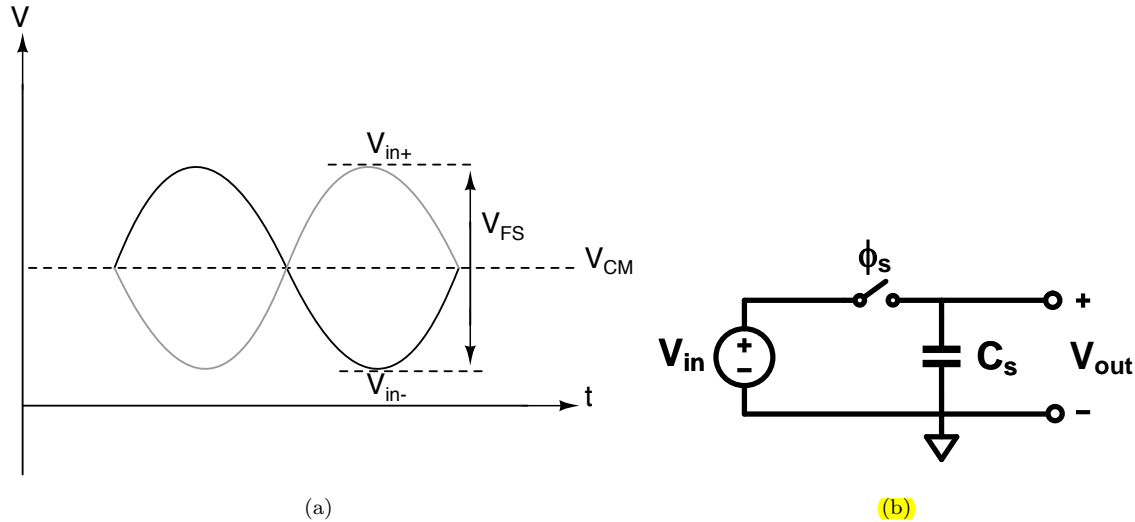

Figure 3: (a) Definition of the Full Scale Differential Input Voltage and Common Mode Voltage; (b) Schematic of an ideal sampler.
- Choose a reasonable value for full-scale voltage (V_{FS}) and common mode voltage (V_{CM}) for a supply voltage of V_{DD} shown in Fig. 3(a) and calculate the size of least significant bit (V_{LSB}). What constitutes a reasonable V_{FS} or V_{LSB} ? Note that the differential input range of your sample and hold circuit is $[-V_{FS}, V_{FS}]$.
- A single-ended sampler (Fig. 3(b)) consisting of a switch with a sampling capacitor C_s , will have a white noise output voltage with a variance given by $\overline{V_{out,n,RMS}^2} = kT/C_s$, with k the Boltzmann constant and T the absolute temperature. Note that for your design you will need to take into account the right sampling capacitor value and the fact that you have a differential design.